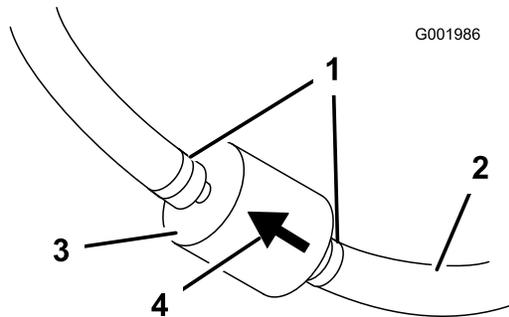

Figure 47
5. Squeeze the ends of the hose clamps together and slide them away from the filter (Figure 47).